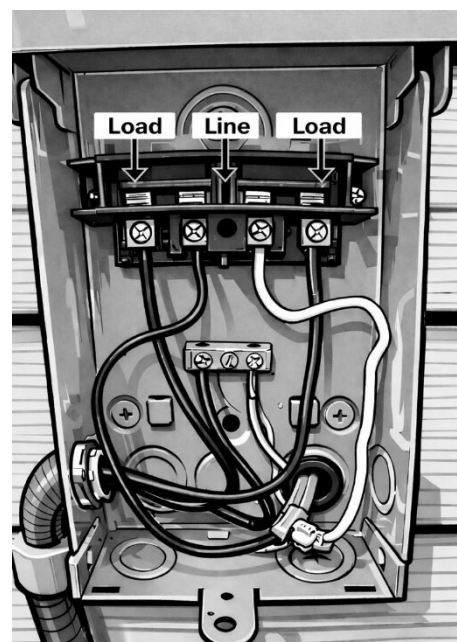

Figure 3: Proper Wire Configuration
- Route as shown in *Figure 3*